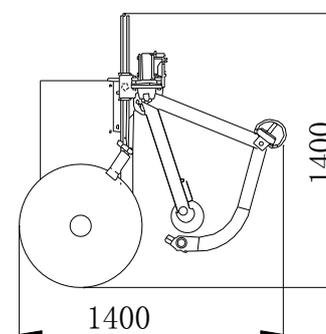

图 9
**Fig 9** shows the minimum distance (cm) from walls after assembly this auxiliary device. Please choose the right place to install it.